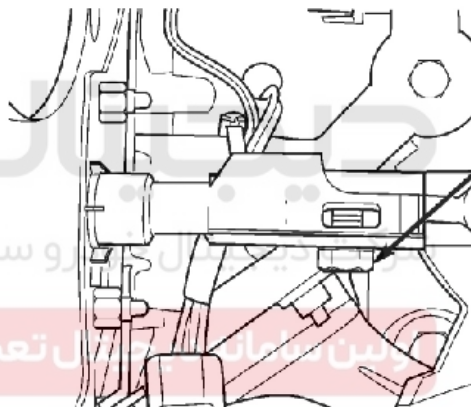

Figure 3-18 Release rod adjusting screw for the clutch master cylinder
- (4) Remove hydraulic hose from the transmission shell (Figure 3-18).
(12) Remove the master cylinder from the installation location and take off the hydraulic hose carefully from the engine (Figure 3-18). In case it is hard to remove such system from the vehicle, cut off the hydraulic hose for master cylinder and separate the system into two parts.
(6) When the master cylinder is replaced, connect the hydraulic hose for master cylinder to the spare replaceable slave cylinder pipe. A tinkle will be heard. Pull the master cylinder pipe to confirm good connection.
(7) Lay down the vehicle.
(8) Release the release rod adjusting screw (Figure 3-18).